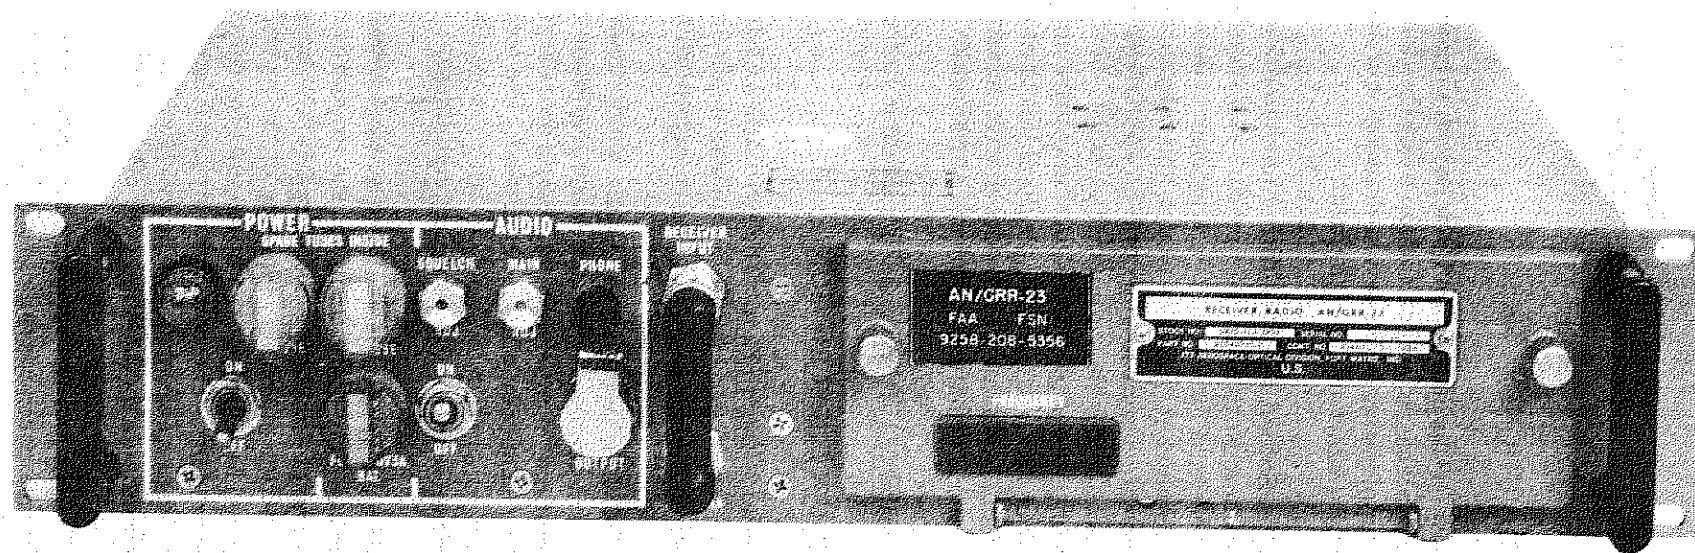

Figure 1-1. Receiver, AN/GRR-23 and AN/GRR-24
**1.2.1 Functional Description.-** The AN/GRR-23 (vhf) receiver and the AN/GRR-24 (uhf) receiver (figure 1-1) are each designed for worldwide deployment in air-traffic control service and provide ground-to-air and point-to-point voice communication in an air-traffic control environment.